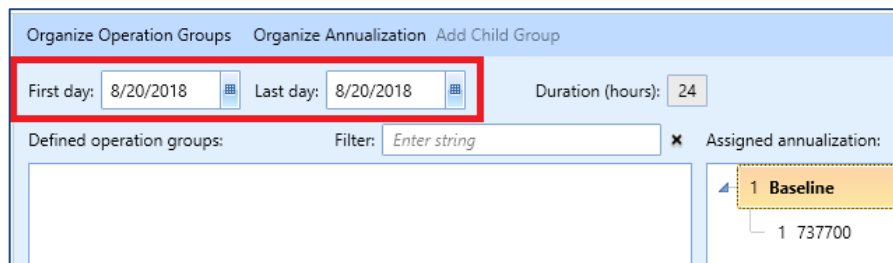

Figure 31. Create Annualization Wizard – Build Annualization
11. Make sure that the First day and Last day are both set to the default operation date, and that the *Duration* is 24 hours (Figure 31). If the two dates are different, it means that the operation time of one of the aircraft operations were not assigned correctly.